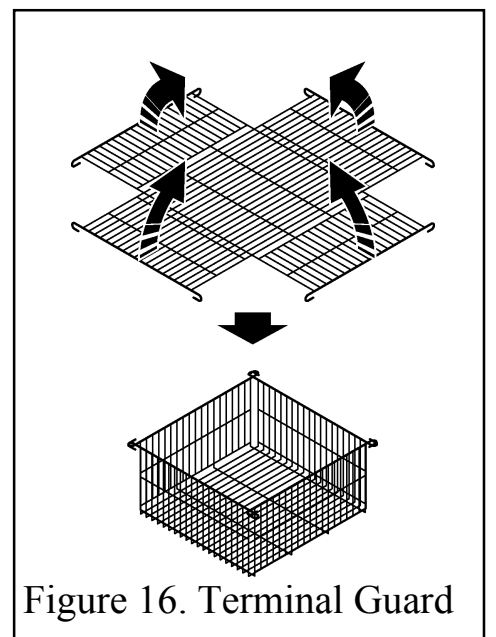

Figure 16. Terminal Guard
- Fold the terminal guard as shown in figure 16.